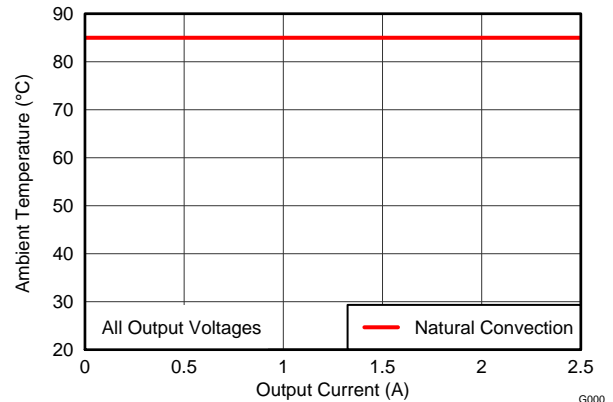

Figure 11. Safe Operating Area
- (3) The temperature derating curves represent the conditions at which internal components are at or below the manufacturer's maximum operating temperatures. Derating limits apply to devices soldered directly to a 100 mm x 100 mm double-sided PCB with 1 oz. copper. Applies to Figure 11.